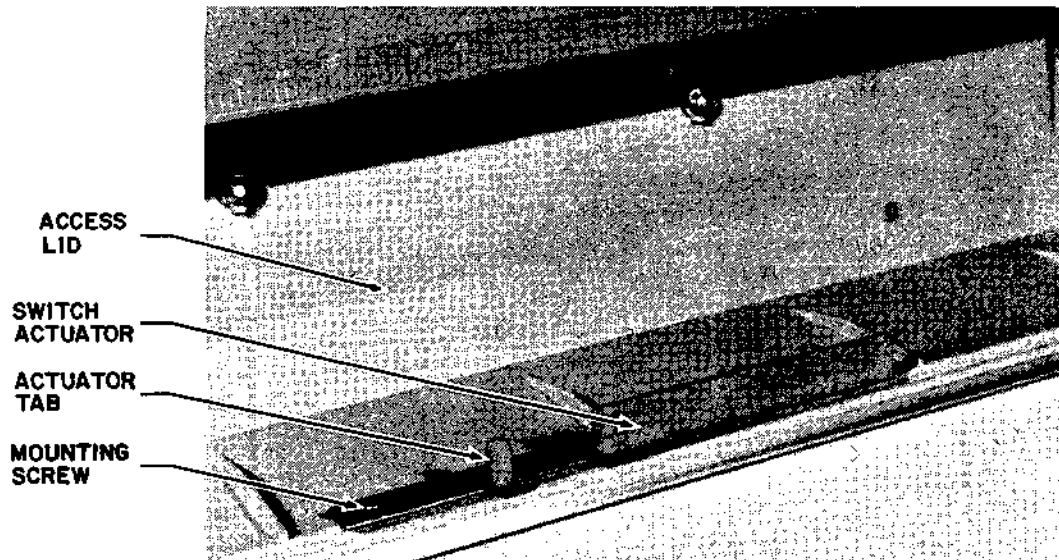

Figure 5-51 FRONT COVER OPEN SWITCH ACTUATOR INSTALLATION
1. Study Figure 5-51. Remove the two center 2-56 x 3/8" screws holding the Access Lid Handle to the Access Lid.